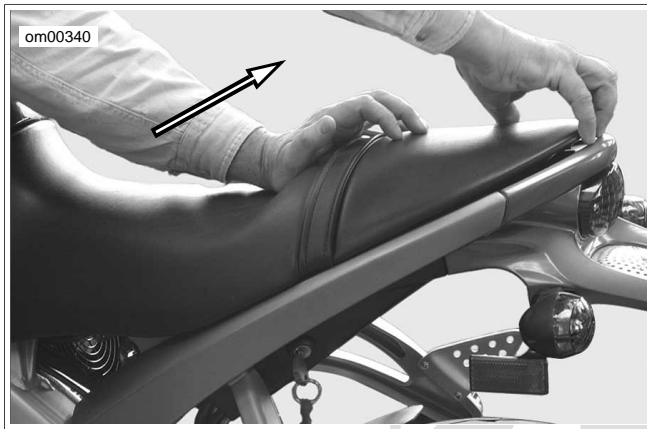

Figure 2-192. Seat Removal: Lightning Models
2. See Figure 2-192. Grip the rear of seat and press firmly in the center of the seat in a back and up motion.